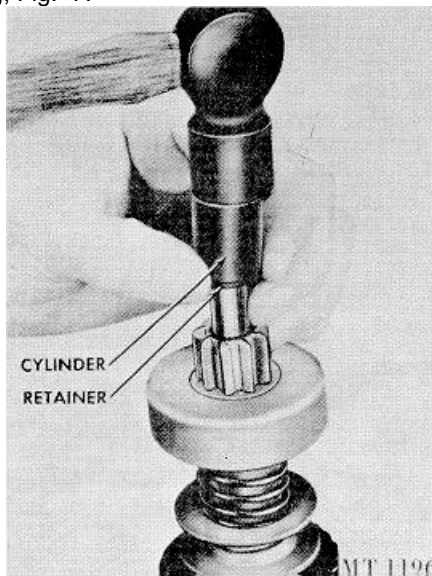

Fig. 7. Removing Retainer from Snap Ring
6. Remove the pinion from the armature by sliding a metal cylinder onto the shaft; with a hammer striking the metal cylinder against the retainer, drive the retainer toward the armature core and off the snap ring, Fig. 7.